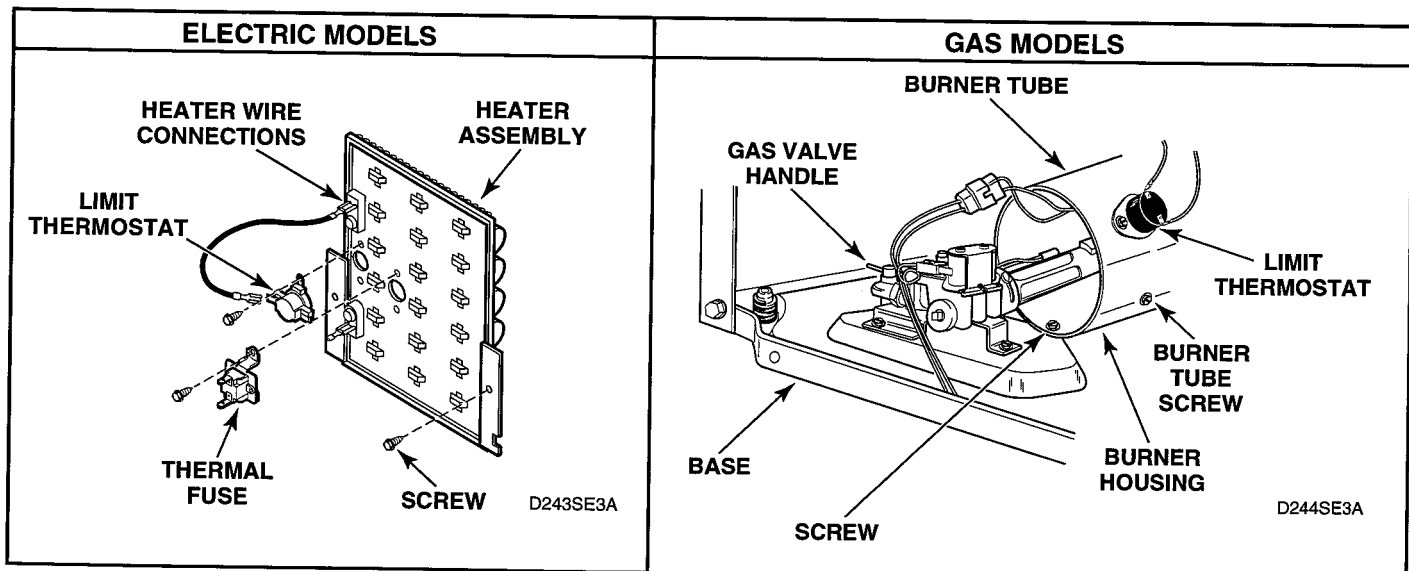

Figure 5-13
1. Remove one screw from right side of burner housing holding burner tube in place. See figure 5-13.
- Remove screw from right side of burner housing, while holding burner tube in place. See figure 5-13.
- Remove screw holding front of burner housing to dryer base and remove housing out through front of dryer. See figure 5-13.
- Disconnect wires and remove screws attaching limit thermostat to burner housing or element plate. See figure 5-13.
- Remove two screws holding element and plate to heater box and pull element down and away from heater box. See figure 5-13.
- Disconnect wires from element and plate. See figure 5-13.
- Remove screws holding element and plate. See figure 5-13.
- Disconnect wires from thermostat/thermistor and heater. See figure 5-13.